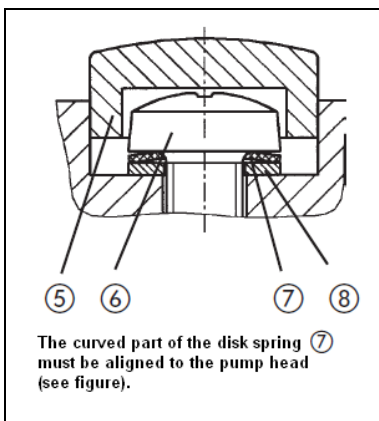

Fig. 11: Orientation of disk spring
6. Check that the hole of the valve plates/sealings (2) is centred on the centering pin of intermediate plate (1) by moving them gently sideways.
7. Place the head plate (3) on the intermediate plate (1), in the position indicated by the marking (M).
8. Check that the head plate (3) is centred by moving it gently sideways.
9. Join the head plate (3) and the intermediate plate (1) by tightening the two screws (6) (hand-tight).
i For placement of disk spring (7) and washer (8) and for orientation of disk spring see Fig. 11.
10. Install the screw caps (5).